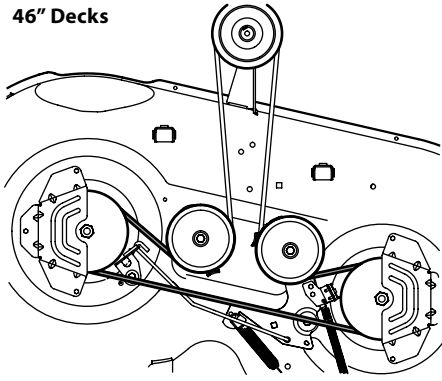
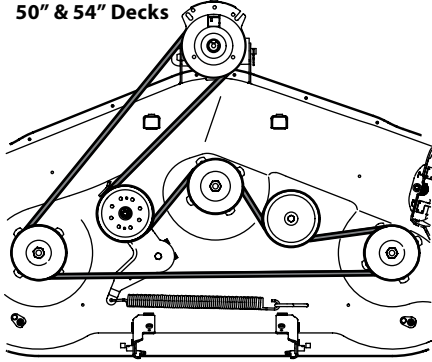

Figure 4-9
Figure 4-10
4. Route the new belt as shown in the applicable figure on the following pages. See Figure 4-9 for 42" decks, Figure 4-9 for 46" decks and Figure 4-10 for 50" & 54" decks.